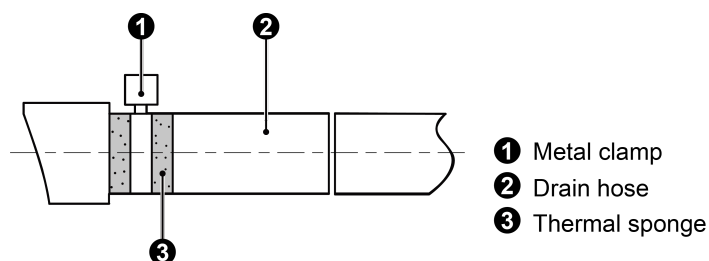

Fig.4.3.2
- (1) Insert the drain hose into the drain hole and tighten it with tapes, as shown in Fig.4.3.2.